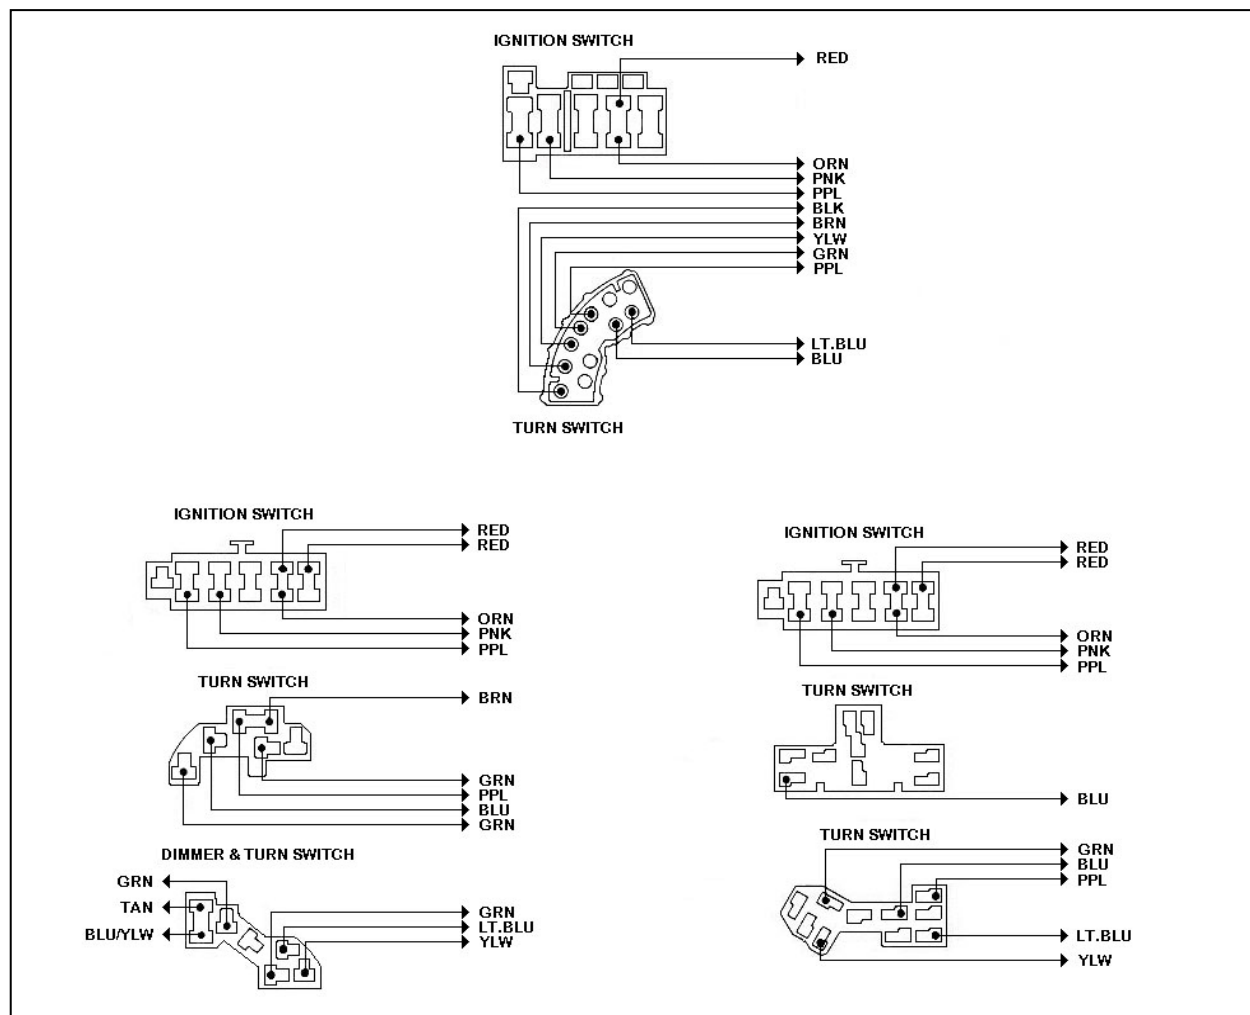

Figure 3-3 Ford Ignition Switch Connectors (See note on Page 10, Sec.3.4)
- 3.4.1** Connect the wires of the ignition switch according to **Table 3-1**. **Figure 3-3** represents three (not all) possible Ford ignition switch connector configurations and how they should be wired.